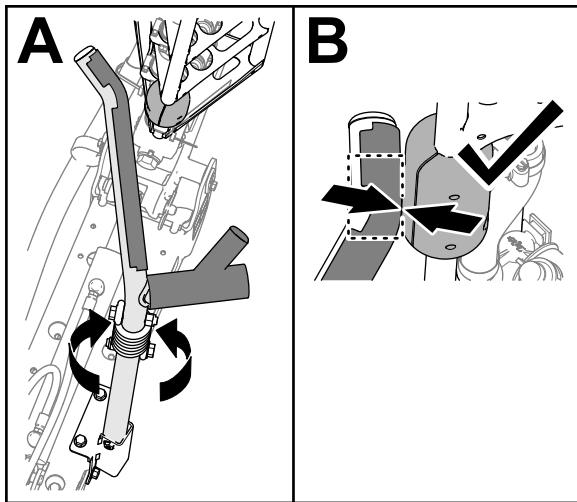

Figure 105
4. Rotate the cradle assembly until the bend in the cradle tube aligns with the slide block on the top tube of the outer boom (Figure 105)
- Note:** The blocks must contact the cradle at the bend in the upper cradle tube (Figure 105).